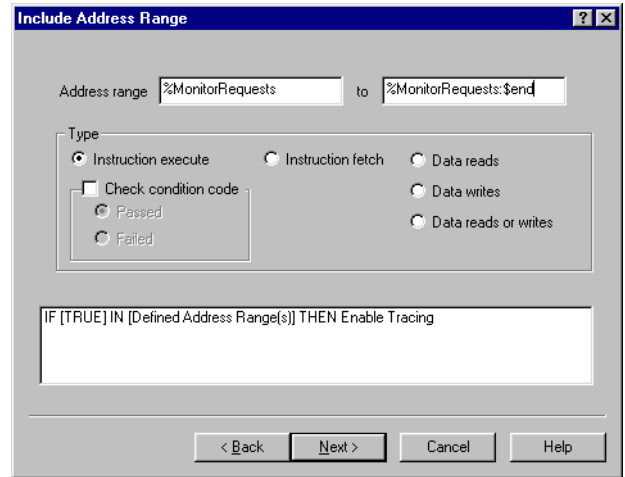

Figure 8-30 Include Address Range dialog box
6. Click **Next>**. The Include Address Range dialog box shown in Figure 8-30 on page 8-33 is displayed.